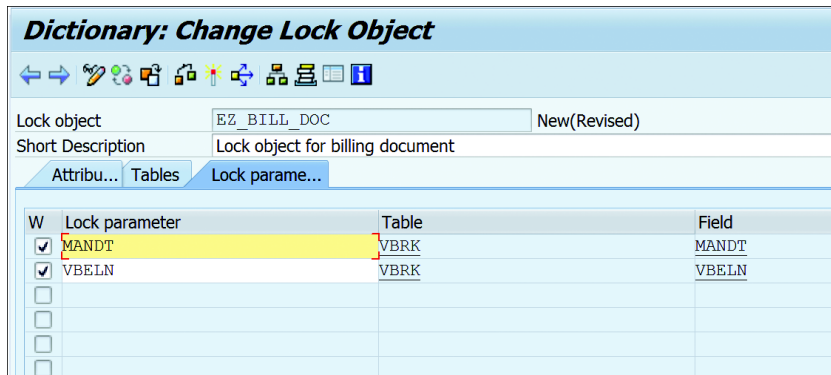

Figure 10.78 Lock Parameters
4. Select the LOCK PARAMETER tab, as shown in Figure 10.78. The key fields of the table are automatically populated. Verify and activate the lock by clicking the ACTIVATE button in the toolbar.